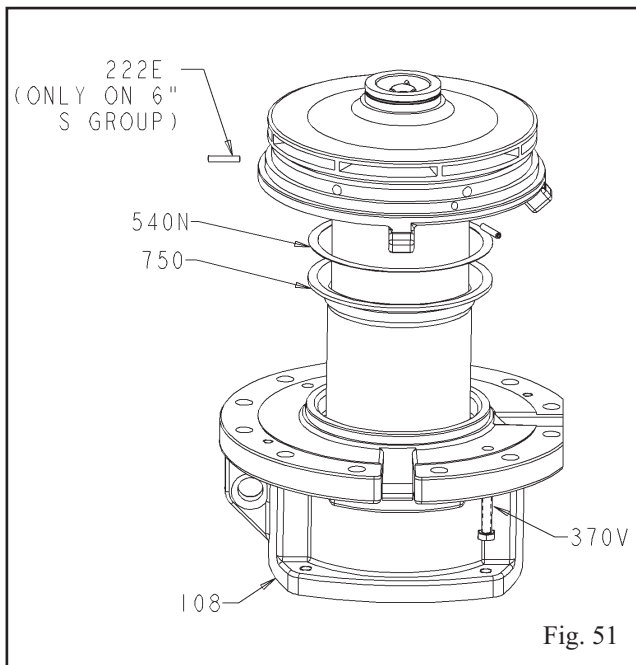

Fig. 51
- Place the containment shell gasket (540N) and containment shell (750) onto the backplate (444) (Fig. 51).
- Screw either the three set screws (222E for the S-Group) or two connection screws (370V for the M-Group) of the adapter (108) into the backplate and tighten (Fig. 51). This holds the containment shell in place.